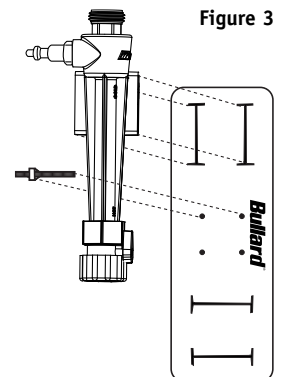

Figure 3
- Align the tube on the heat shield as shown in **Figure 3**.